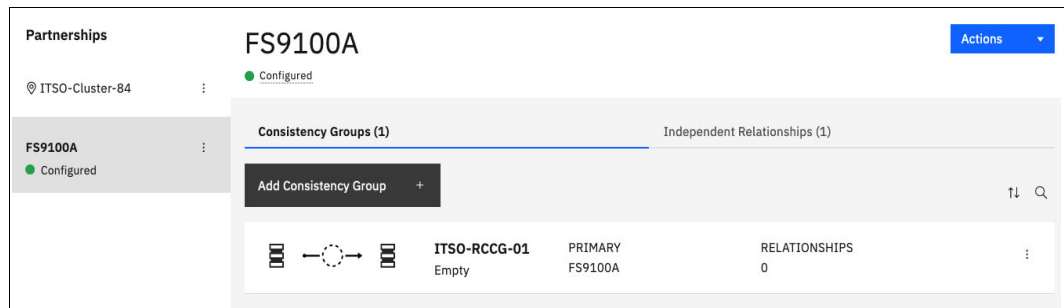

Figure 10-123 Creating a Remote Copy consistency group
1. Select **Copy Services** → **Remote Copy**, and select the target system of the RC. Then, click **Add Consistency Group**, as shown in Figure 10-123.